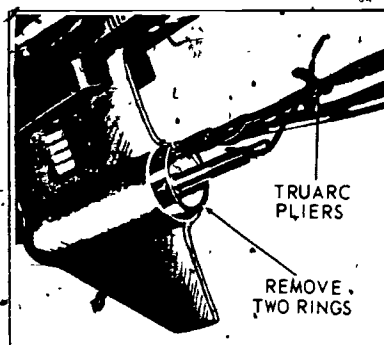

FIGURE 5
- M. Remove Truarc rings with Truarc pliers (Figure 5)